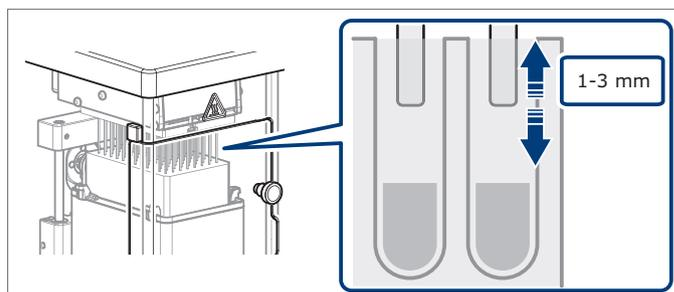

Figure 8. Place the nozzles 1-3 mm below the entry of the well.
- » If the liquid level is greater than 50% of the maximum well volume, set the lift height so that the nozzles are placed inside the sample wells. The recommended start point, depending on the liquid volume, is 1-3 mm below the entry of the wells. (see Figure 8).